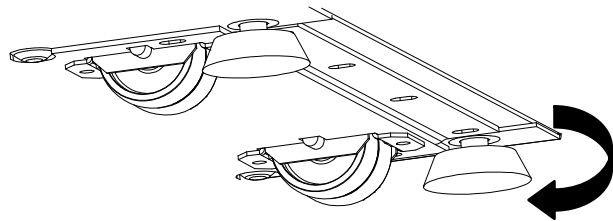

Figure 30. Lowering the Leveling Feet
1. Lower the leveling feet to prevent the cabinet from rolling (see Figure 30).